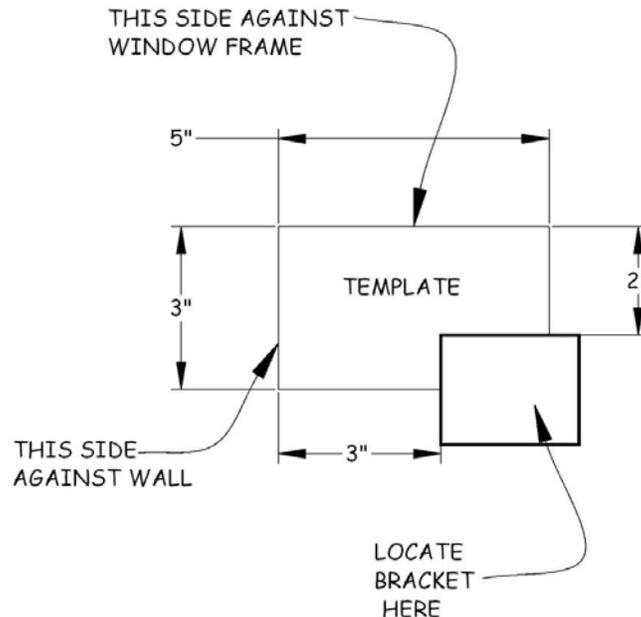

Figure 19-6. Miniblind Installation Guide.
1. Create a template from a piece of 3"x5" cardboard as shown in Figure 19-6.
2. Hold the template against the top of the window frame (against the header) and install the blind mounting brackets on each side of the window as shown in Figure 19-6. For cordless mini blinds, adjust the mounting brackets left or right to avoid interfering with the mini blind's raise/lower mechanism